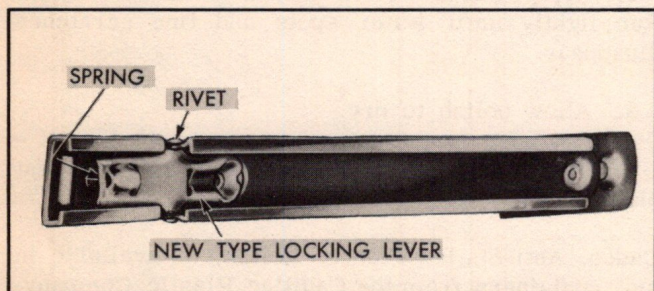

Fig. 2 Installing New Locking Lever
6. Install the new locking lever, spring and rivet in channel (Fig. 2) and peen the end of tubular rivet.